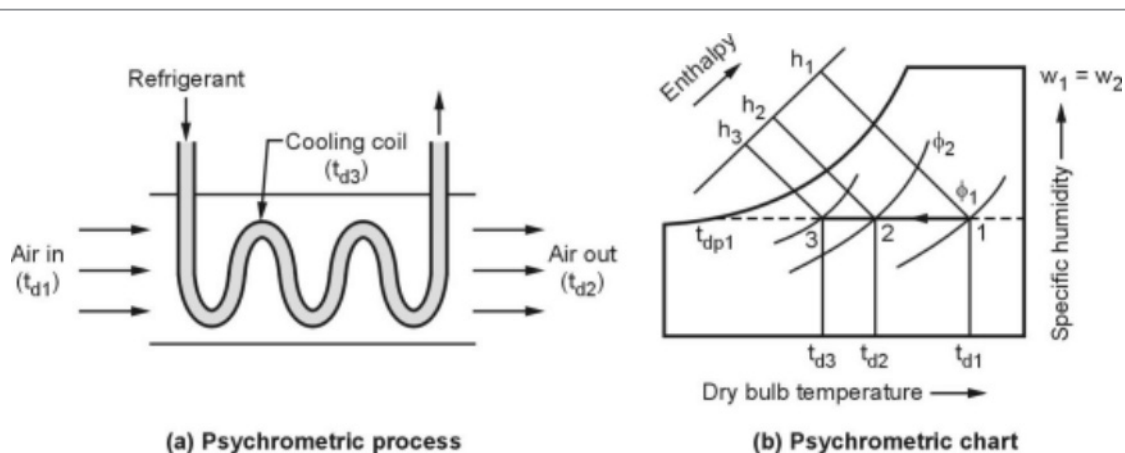

Fig. 5.65 : Sensible cooling
- In this process, the dew point temperature and latent heat content of air remains constant. Therefore, the process is indicated as a horizontal line from right to left, based on the end conditions of air, as shown in Fig. 5.65.
- Fig. 5.65 (a) shows the cooling process on psychrometric chart as horizontal line 1-2. The point 3 represents the surface temperature of the cooling coil.
DBT of air reduces from  $t_{d1}$  to  $t_{d2}$  and RH of air increases from  $\phi_1$  to  $\phi_2$  as shown in Fig. 5.65 (b).
- The heat rejected by air is obtained from the psychrometric chart by enthalpy difference ( $h_1 - h_2$ ) as shown in Fig. 5.65 (b).
**Note :** The sensible cooling can be possible only upto the dew point temperature ( $t_{dp}$ ) as shown Fig. 5.65 (b). The further cooling will result in condensation of moisture.